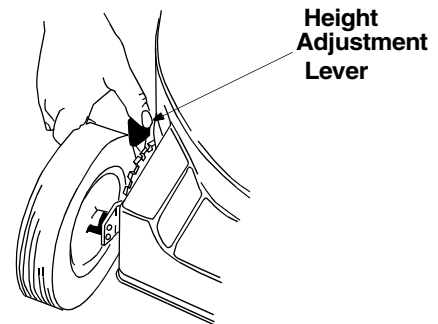

Figure 13
- Simply depress the lever towards wheel and move it to any of the nine positions for the desired cutting height. See Figure 13. All four levers on the four wheels must be placed in the same relative position for uniform cutting height